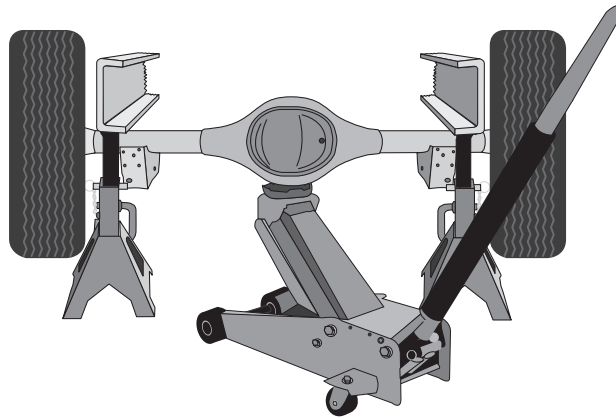

fig. 1
1. Jack up the rear of the vehicle or raise on a hoist. Support the frame with safety stands (Fig. 1). Lower the axle or raise the body of the vehicle until the springs are completely extended.